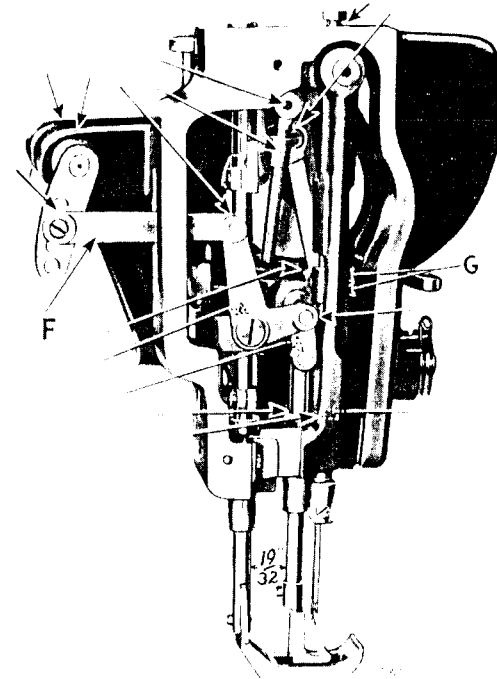

Fig. 4. End View of Machine Showing Oiling Points
In case the needle bar is not correctly set, loosen the needle bar connecting stud pinch screws at (G, Fig. 4) and place the needle bar in correct position as directed above, then retighten the screws (G).
The distance between the vibrating presser bar and lifting presser bar, after adjusting the feed mechanism so that there is no feed movement of the needle bar, should be $19/32$ inch as shown in Fig. 4.
The height of lift of the pressers is adjustable by moving the link (F, Fig. 4) to any of the four holes in the rock shaft crank. The maximum lift is secured with the link in the bottom hole. The amount of lift should be regulated according to the thickness of the material being sewn. The feet should lift just high enough to clear the material.